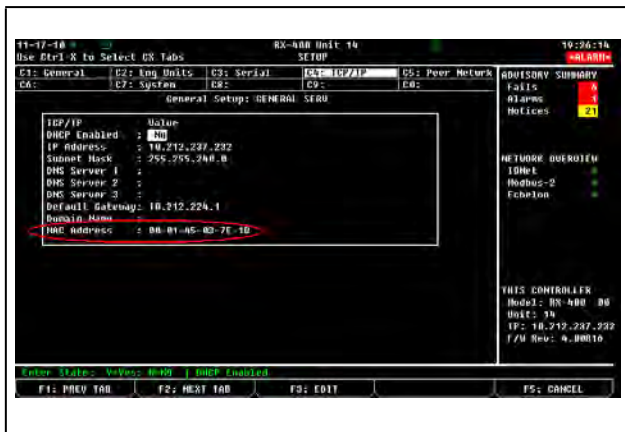

Figure 10-33 - TCP/IP Screen - Locating the Mac Address
3. Press **#3** (TCP/IP Setup) to open the TCP/IP Setup screen and locate your E2's MAC address (circled in **Figure 10-33**):